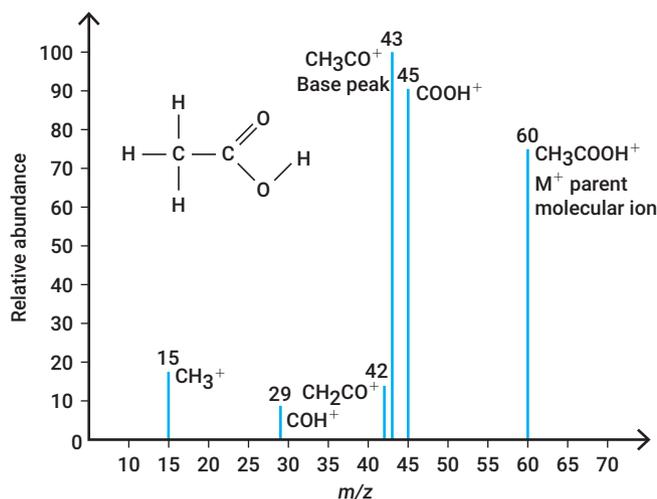

FIGURE 16.3.3 A simplified mass spectrum of ethanoic acid (CH_3COOH). The parent ion and base peak are identified.
The way organic molecules fragment provides clues to the structure of the molecule. When ethanoic acid (CH_3COOH) is injected into a mass spectrometer, a range of peaks is observed (see Figure 16.3.3). Notice that the parent molecular ion at the m/z 60 peak is not the most abundant peak. The most abundant peak is the base peak at m/z 43. The other common peaks present are at m/z 45 and 15.
If the bond between the two carbons breaks, then there are two possible peaks: a peak corresponding to the cation CH_3^+ at an m/z 15 and a peak corresponding to COOH^+ at m/z 45. Notice, in **Figure 16.3.3**, that the peak at 45 is much bigger than the peak at 15. This indicates that the fragmentation:
- 9 There was concern at a bioethanol plant that the ethanol had become contaminated with methanol. To check this, a chemist tested a sample and obtained the following mass spectrum for the sample. **Compare** the spectrum of the contaminated sample with that of ethanol in Figure 16.3.3.